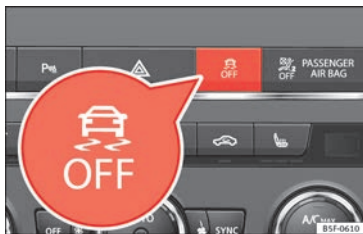

Fig. 146 Centre console: Button for switching on/off the ESC and ASR
- Press the button  » **Fig. 146** for approximately 1 second to switch off the ASR function.
- Press the button  » **Fig. 146** for approximately 3 seconds to switch off the Electronic »
- The ASR and ESC function are reconnected by pressing the button  » **Fig. 146.**